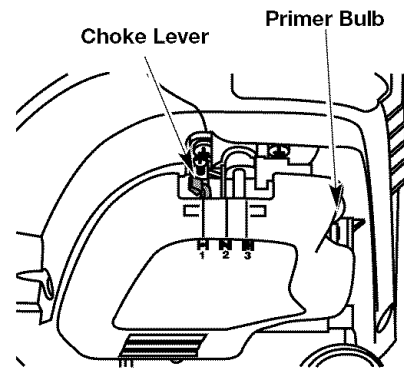

Fig. 21
4. Fully press and release the primer bulb 10 times, slowly. Some amount of **fuel should be visible in the primer bulb and fuel lines** (Fig. 21). If you can't see fuel in the bulb, press and release the bulb as many times as it takes before you can see fuel in it.
5. Place the choke lever in **Position 1** (Fig. 21).
7. Place the choke lever in **Position 2** (Fig. 21).
10. Place the choke lever in **Position 3** (Fig. 21). The unit is ready for use.